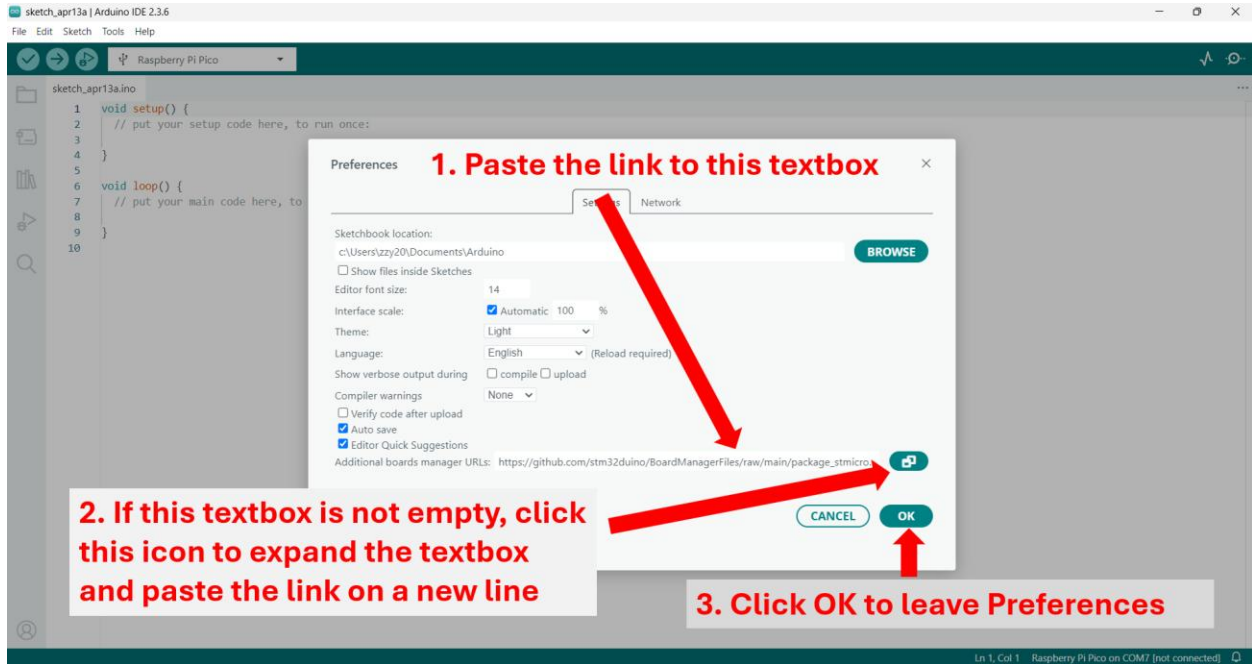

Figure 11
6. Add the following link to the additional board manager textbox, as shown in Figure 11.